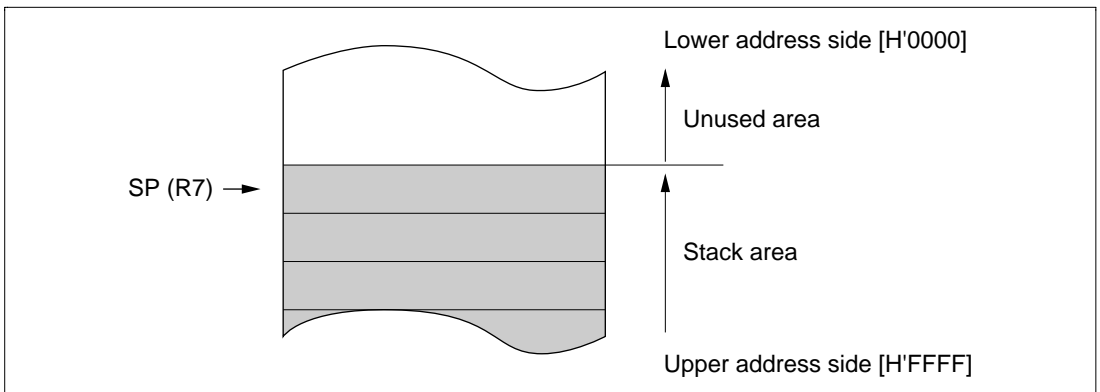

Figure 2.2 Stack Pointer
R7 also functions as the stack pointer (SP), used implicitly by hardware in exception processing and subroutine calls. When functions as the stack pointer, as indicated in figure 2.2, SP (R7) points to the top of the stack.